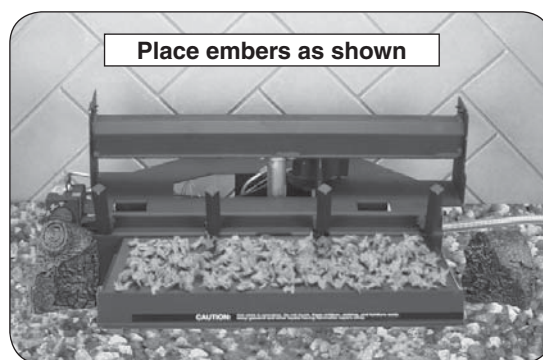

Fig. 22-3 Place glowing embers
1. Place the glowing embers evenly over the entire surface of the ember burner as shown in Fig. 22-3. **Break up any clumps that may have developed during shipment. Store unused embers for later use/replacement.**